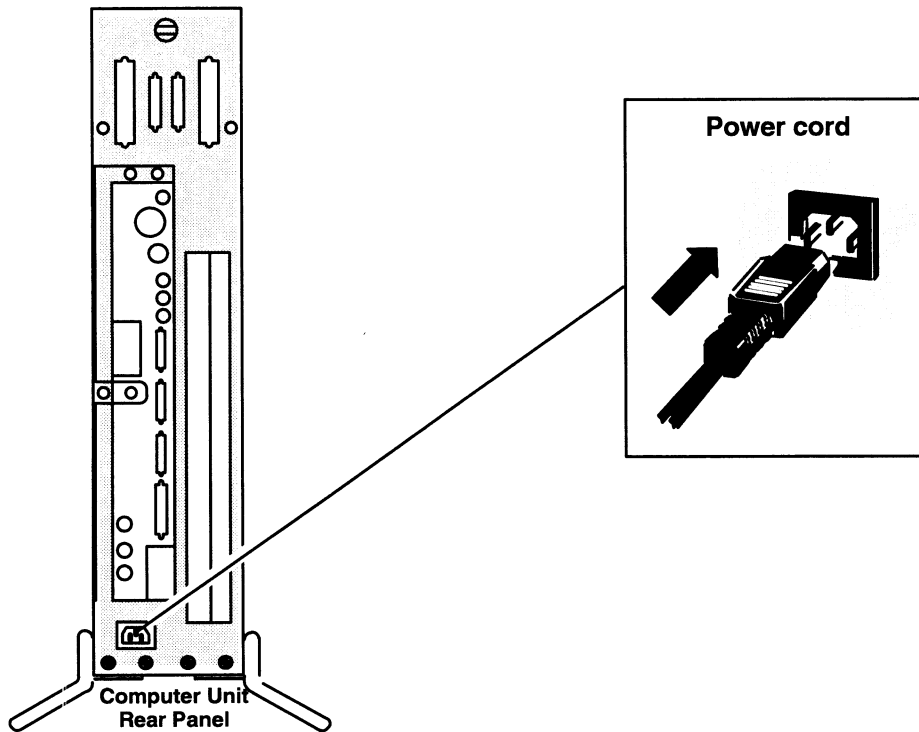

Figure 6-13 Connecting the Computer Unit's Power Cord
6. Plug the power cord into the receptacle on the back of the computer unit as shown in Figure 6-13.